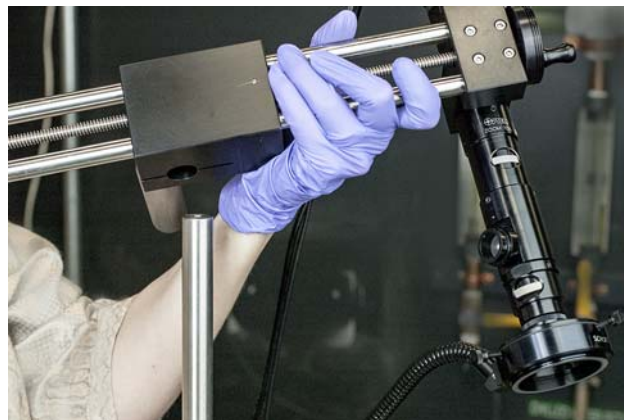

FIGURE 3-19 *Installing the horizontal boom onto the vertical post*
3. Slide the horizontal boom onto the vertical post as shown in FIGURE 3-19. You may need to turn the quick release handle counterclockwise to allow it to slide easily. If the microscope physically touches the vacuum chamber lid, adjust the shaft collar before moving on; section 6.3.4.5 describes how to adjust the shaft collar.